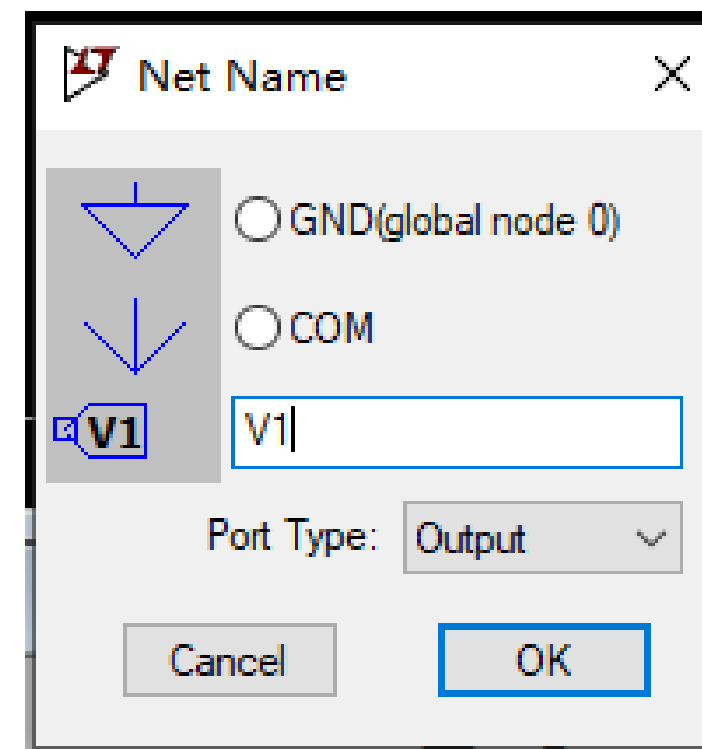

Figure 10: Label Net setting (Output)
- d) Close with OK. Add two output labels. Click Edit->Label Net, Fill in the setting like show in Figure 10. Connect V1 Output with the positive end of Voltage source. Repeat the step to add V2 Output and connect with the node between R_1 and R_3 . After add the node the schematic should looks like Figure 11.